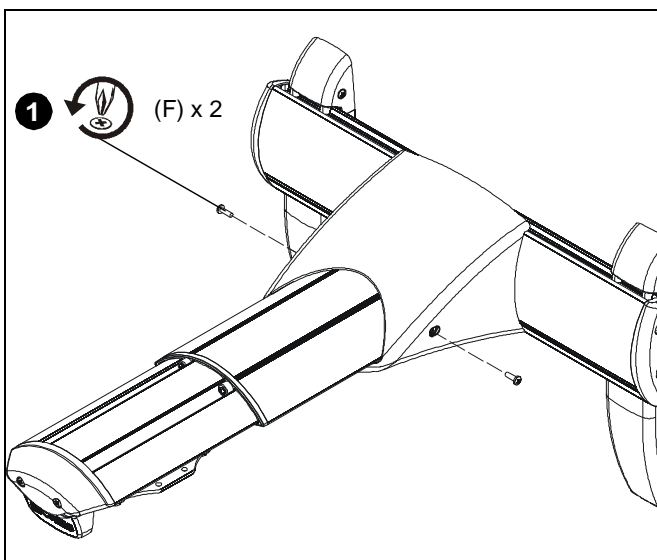

Figure 32
1. Remove two #8-32 x 1/2" Phillips pan machine screws (F) to free outer cover from mounting bracket. (See Figure 32)